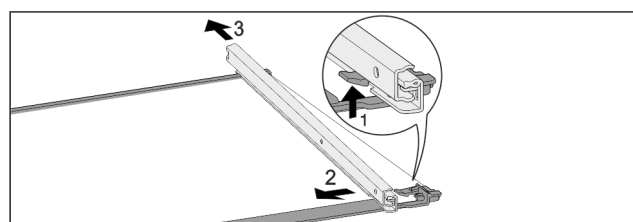

Fig. 117 Glass shelf with rails
- Push up front click-in hooks. Fig. 117 (1)
- Move the pull-out rails to the side Fig. 117 (2) and to the rear Fig. 117 (3).